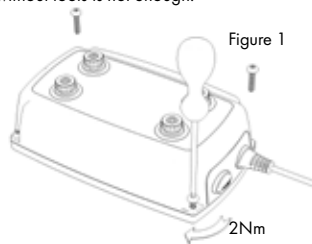

Figure 1
4. Mount the unit with screws intended for the surface and attach it with one screw in each of the four holes in the corners of the unit. See picture 1. Mount the unit with M4 or ST4.2 screws. The required torque depends on the surface for mounting. Fig. 1 shows a CTEK D250S. The same procedure is used for all devices.